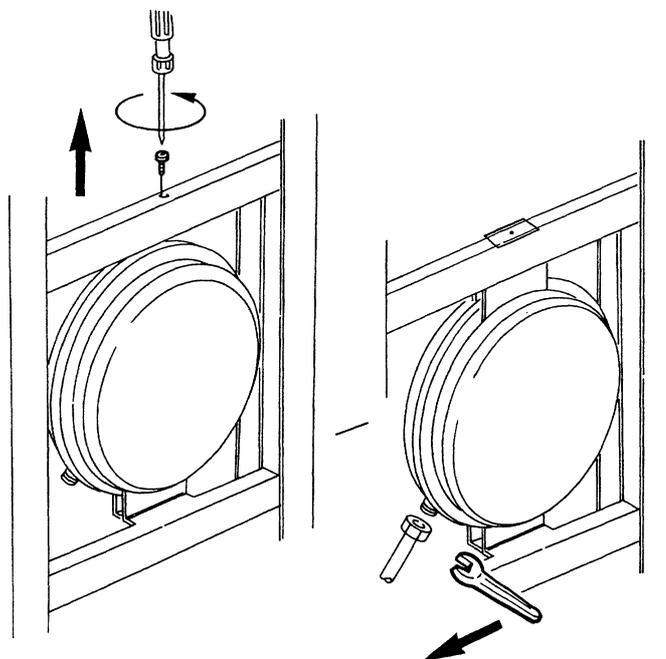

Fig. 58
7.25 TO REMOVE/REPLACE THE CENTRAL HEATING EXPANSION VESSEL (fig. 58).